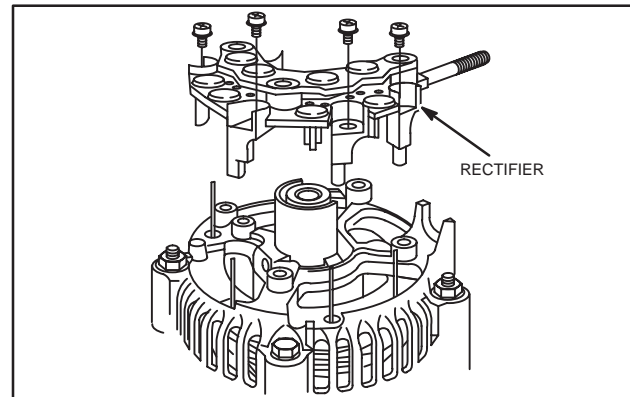

Fig. 38 – Install Rectifier
5. Align stator wires with holes in rectifier and assemble rectifier to brush end housing, Fig. 38.